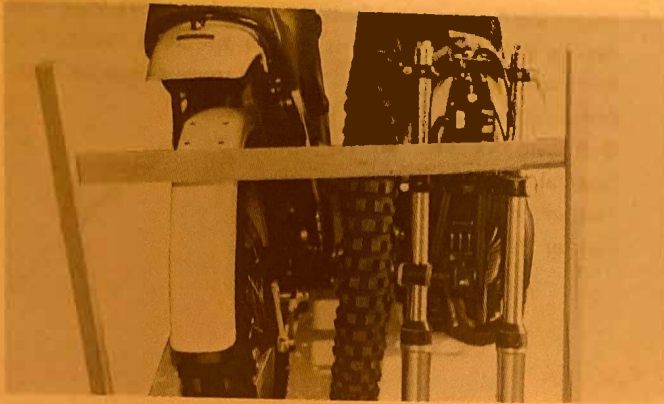

Fig. 7
1. Remove the front wheel. (Fig. 7)